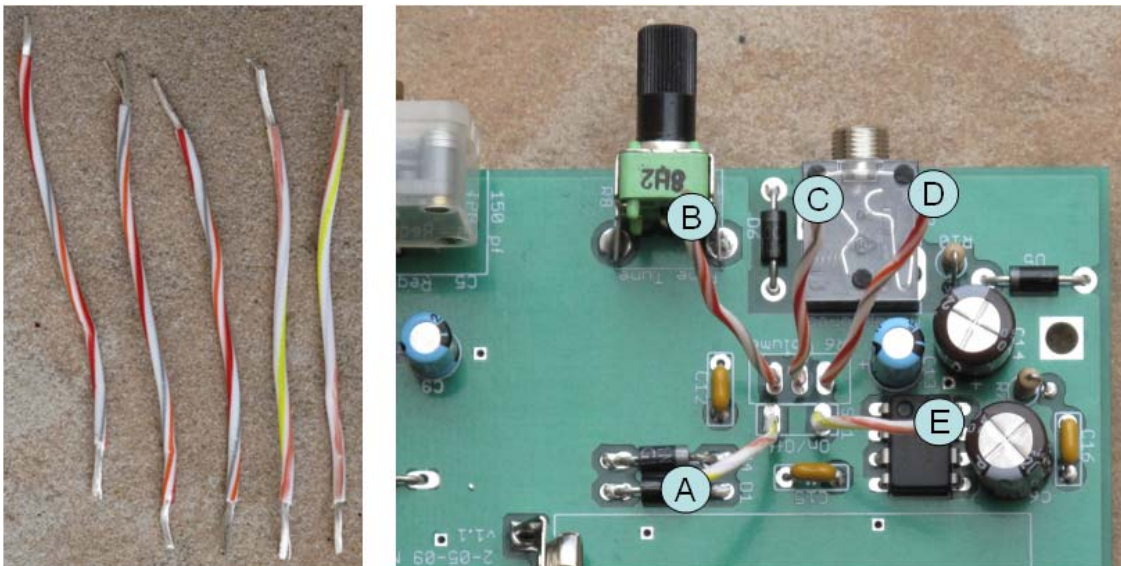

Figure 58. Cut five wires 2.5" in length and install on R6 pads
□ Connect R6 lugs to the wires on the board. First connect the two outside wires, Wire A to R6 terminal A, Wire E to R6 terminal E as shown in Figure 58 and Figure 59. Next connect the center of the three wires, Wire C to R6 terminal C. Finally connect Wire B to R6 terminal B and Wire D to R6 terminal D.